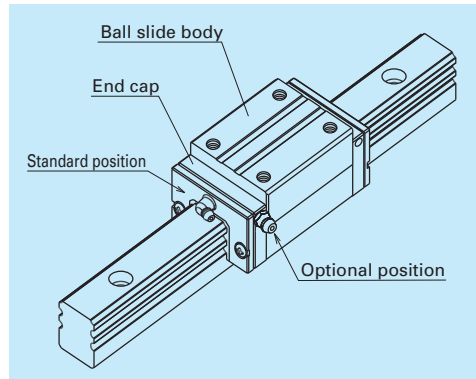

Fig. 11 Mounting position of lubrication accessories
(2) Mounting position of lubrication accessories
- The standard position of grease fittings is the end face of ball slide. We mount them on a side of end cap for an option. (Fig. 11) .